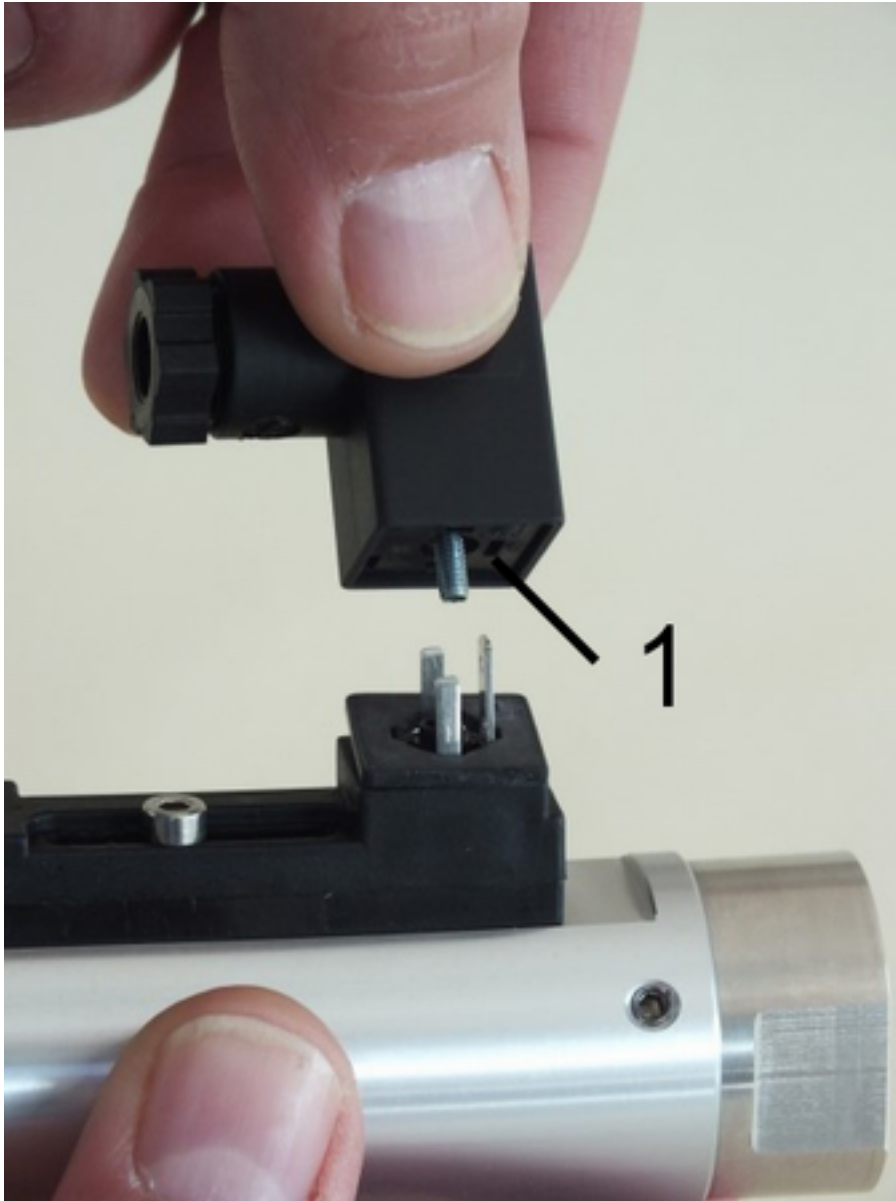

Fig. 21: Remove socket
2. ➤ Remove the socket (*Fig. 21/1*)